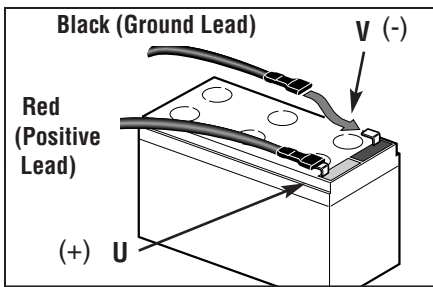
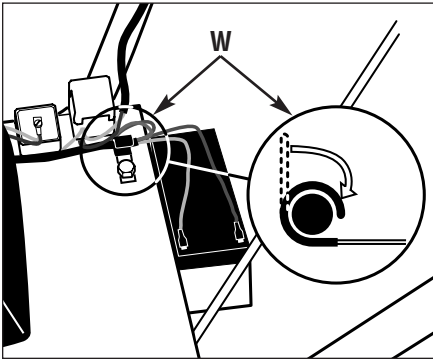

Figure 2-3: Connect wire terminals to battery terminals.
Figure 2-4: Attach wire harness with J-clips.
- Plug terminal on red (positive) wire into red terminal (U, Figure 2-3) on battery.
- Plug terminal on black (negative) wire into black terminal (V).
- If applicable, attach wire harness to engine deck using J-clips (W, Figure 2-4) as shown. Bend J-clips over to secure.